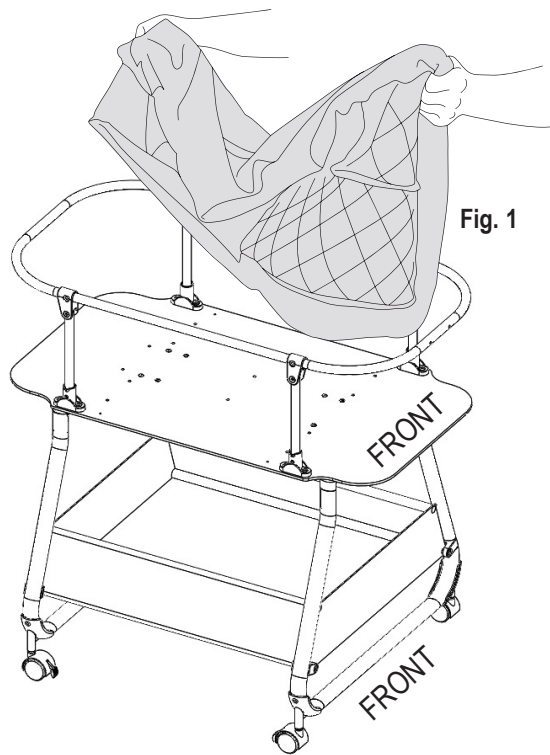

Fig. 1
- Place the frame on a flat surface and extend the support legs out (Fig. 1).
- Align the power housing holes to the mattress board cross tube holes. Next using a Phillips screwdriver, tighten two (x2) M6 screws to the power housing until it is fully attached to the mattress board cross tubes (Fig.1).
- Locate the Front Base Leg and two (X2) casters and attach to the base leg till it locks in place (Fig.1).
- Align the front base leg to the front side of the bassinet. Insert two (x2) M6 screws to the assembled front base leg and use a phillips screw driver to tighten both sides (Fig. 1).
- Place the liner onto the frame. Make sure warning is centered at the front of the bassinet (Fig. 1).
- Align music module to the front end of the bassinet and lift up the front section of fabric liner before attaching music module (Fig. 1).
- Locate the mobile arm and toys and attach it together until it locks in place (Fig.1).
- Lift the fabric on the front of the bassinet (Fig. 1).